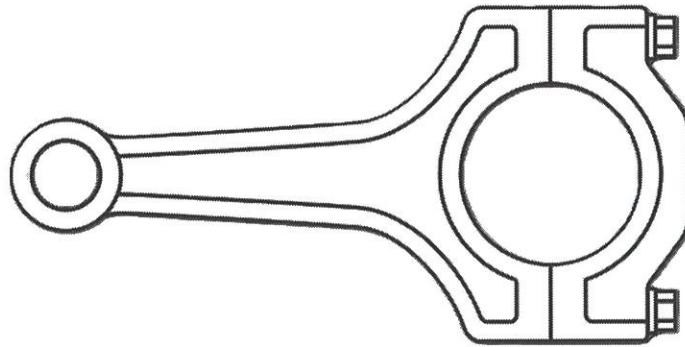

Figure 3(c) / Rajah 3(c)
- (c) The selection of an appropriate fabrication process is crucial to ensure the production of high-quality components. Figure 3(c) shows the connecting rod which connects the piston to the crankshaft and is designed to be strong and reliable to withstand high stress.